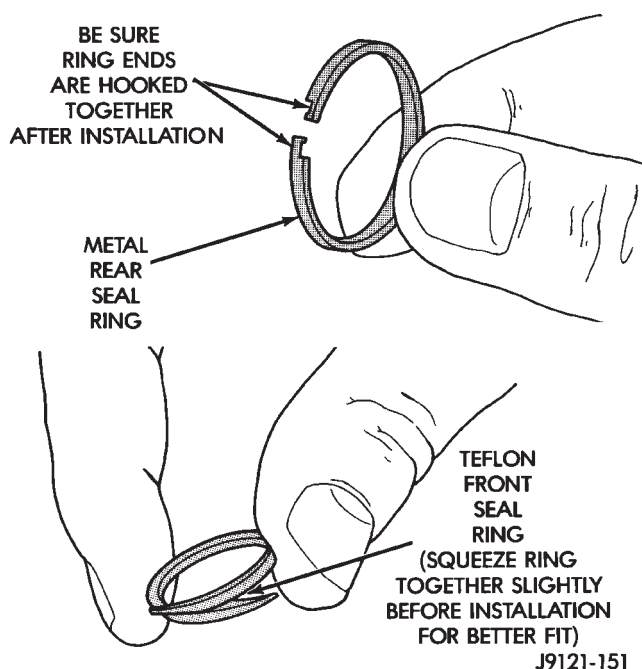

Fig. 218 Input Shaft Seal Ring Identification
- (b) Note that input shaft front seal ring is teflon and rear seal ring is metal (Fig. 218). Be sure chamfered ends of teflon ring are properly joined